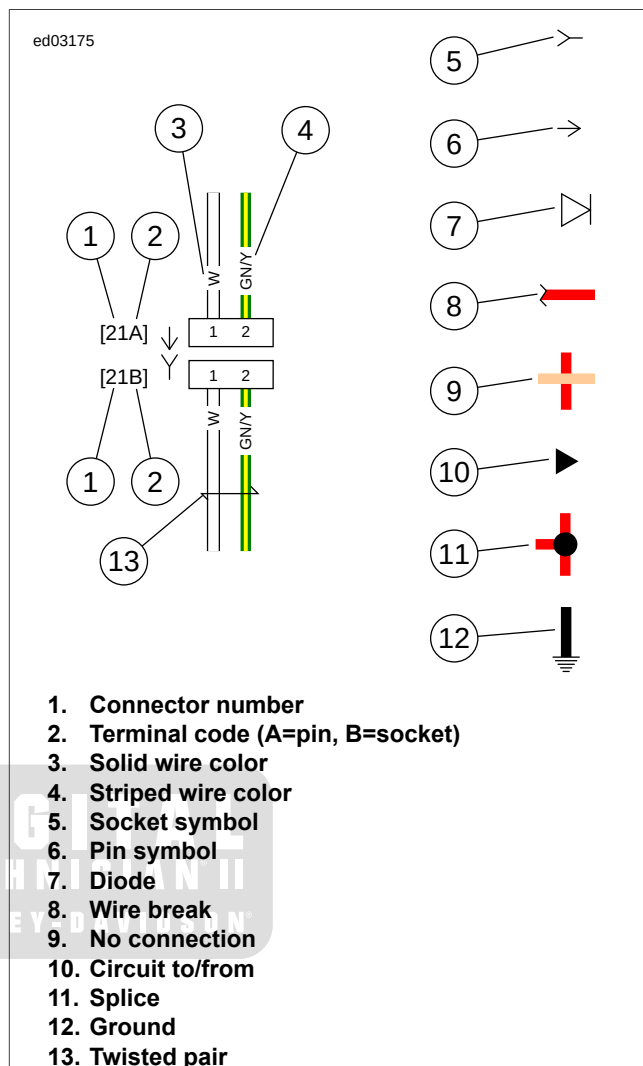

Figure B-1. Connector/Wiring Diagram Symbols
**For Solid Color Wires:** See Figure B-1. The alpha code identifies wire color.
See Figure B-1. On wiring diagrams and in service/repair instructions, connectors are identified by a number in brackets [ ]. The letter inside the brackets identifies whether the housing is a socket or pin housing.